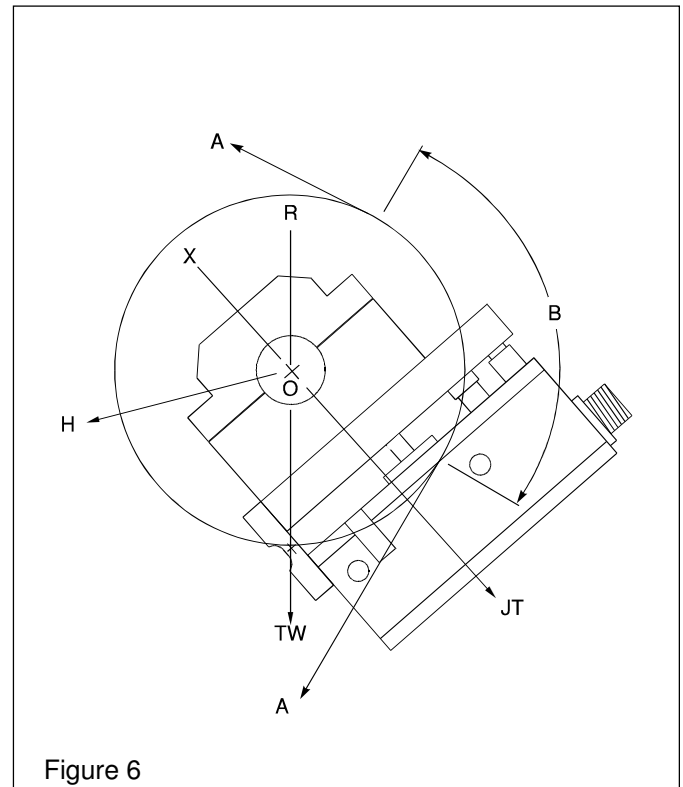

Figure 6
The total resultant load per cell (JT) is calculated by resolving web force vectors acting upon the Tensioncell, with respect to the Loading Line (OX). (JT) is the resultant of both TENSION and TARE loads, PER CELL!! (See Figure 6)